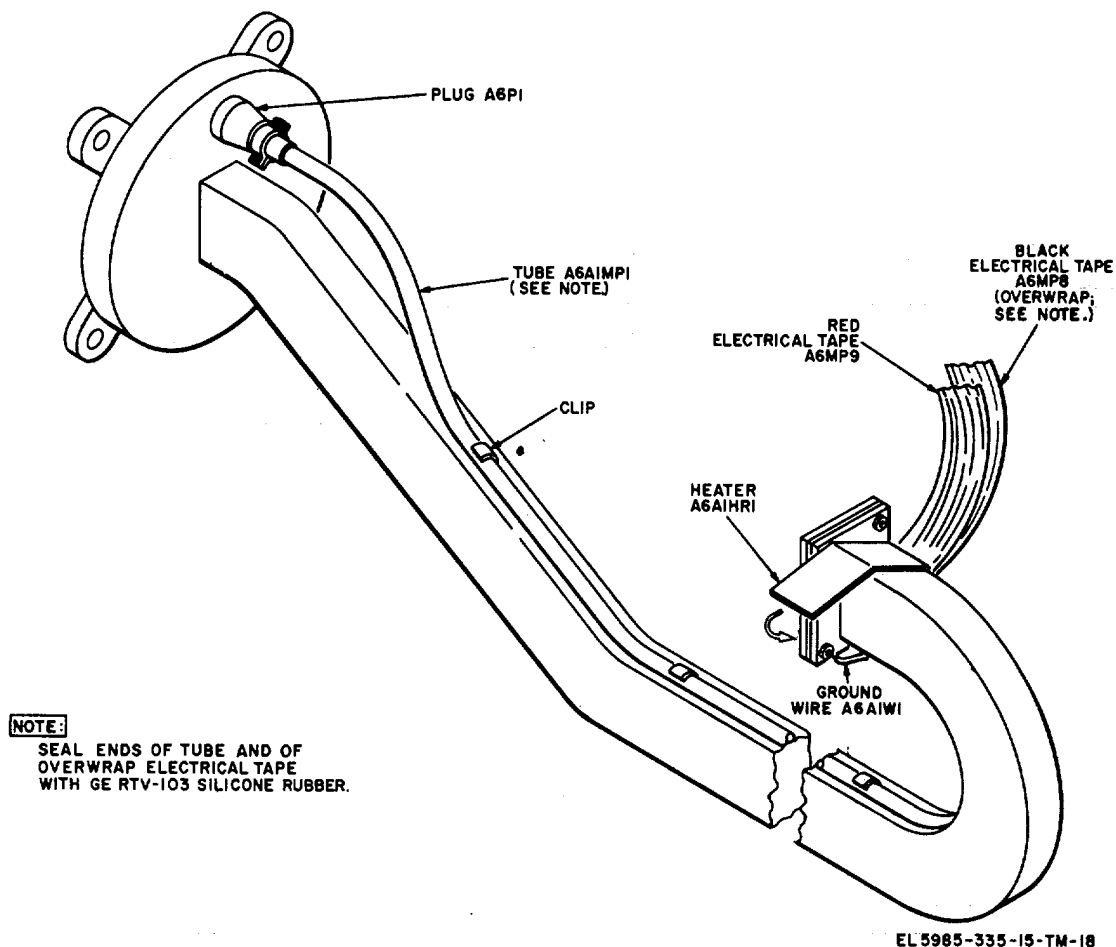

Figure 4-1. Removal and replacement of deicer equipment.
(1) Place the iris and gasket against the feedhorn.
(2) Place the outer frame against the gasket and iris, and replace the 10 securing screws and self-locking nuts removed in a. (1) above. (One of the self-locking nuts is used to secure the ground wire of the heater assembly, as shown in figure 4-1).
(fig. 4-1)
- (1) Connect the deicer plug.
- (2) Gently press the tube into position under the four clips along the length of the feedhorn.
- (3) Wrap the heater around the neck of the feedhorn, and secure the ground wire under the self-locking nut on the feedhorn, as shown in figure 4-1.
- (4) Secure the heater and ground wire to the feedhorn with red electrical tape and overwrap with black electrical tape.
- (5) Seal the ends of the tube and of the tape overwrap with General Electric RTV-103 silicone rubber.